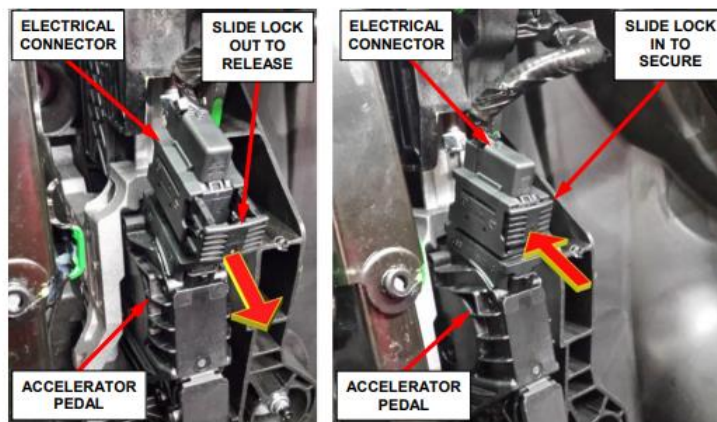

Figure 5 – Accelerator Pedal Electrical Connector Slide Lock Style
3. Disconnect the electrical connector from the accelerator pedal (Figures 5, 6).